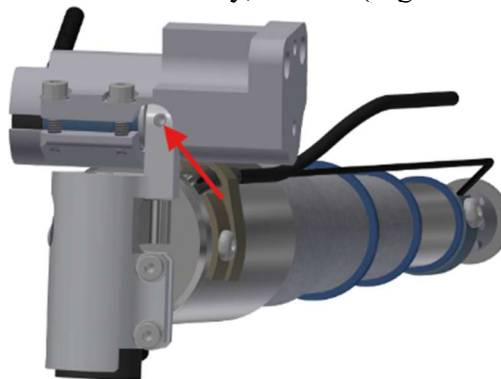

Figure 5-52. Upper thorax IR-TRACC Y-axis potentiometer shaft set screw
- 5.3.16 Tighten the M2.5 X 0.45 X 3 LG. SSSCP NYLOK in the IR-TRACC onto the shaft of the Potentiometer Assembly, Z-Axis (Figure 5-52).